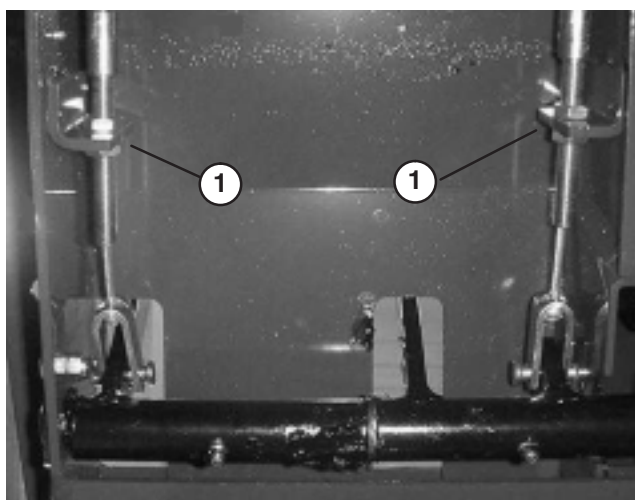

Figure 54
2. To reduce free travel of brake pedals — tighten the brakes — loosen front nut on threaded end of brake cable (Fig. 54). Then tighten rear nut to move cable backward until brake pedals have 1/2 to 1 inch (13 mm to 25 mm) of free travel. Tighten front nut after brakes are adjusted correctly.